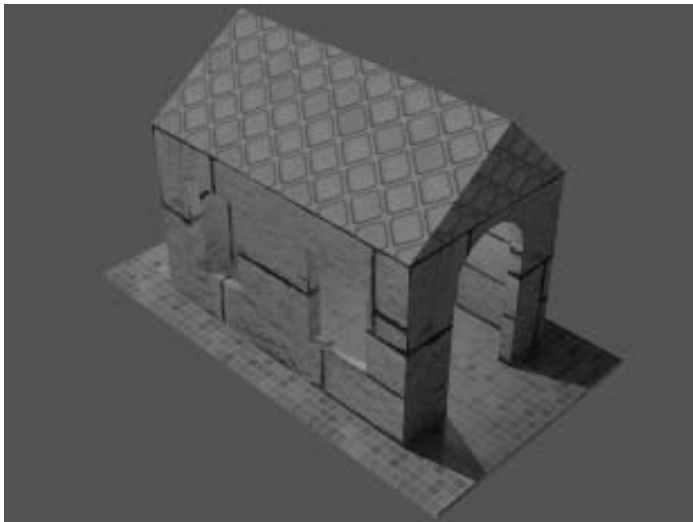

Figure 30-90 Rendered model with the effect of light 2
5. Next, switch off light 1 and switch on light 2, as explained in the previous steps and render the model. The rendered model is displayed in the **Render** window with the effect of light 2 only, as shown in Figure 30-90.